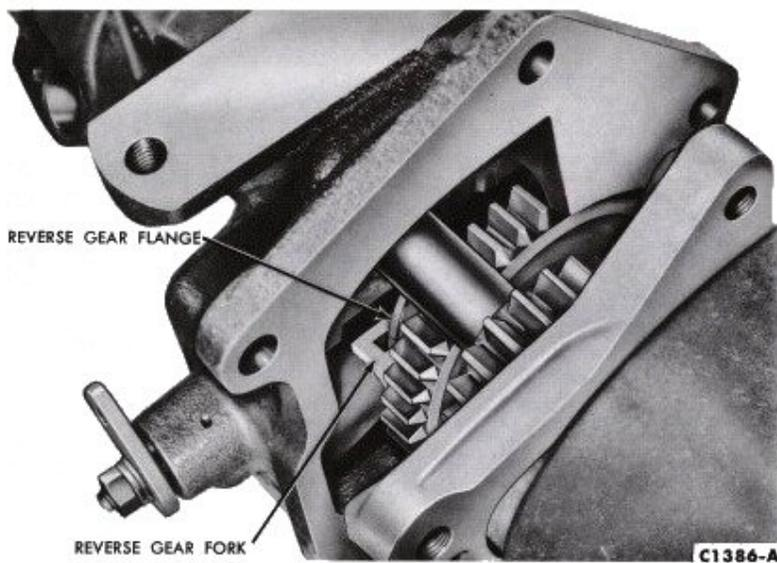

FIG. 24—Extension Housing Installation
23. Position the extension housing over the output shaft and carefully push the housing forward. Insert the reverse idler shaft into the reverse idler gears. When the reverse shift fork seats in the reverse gear shift collar groove (Fig. 24), push the reverse shift shaft into position. Move the reverse gear rearward with the shift lever, and seat the extension housing against the adapter plate.